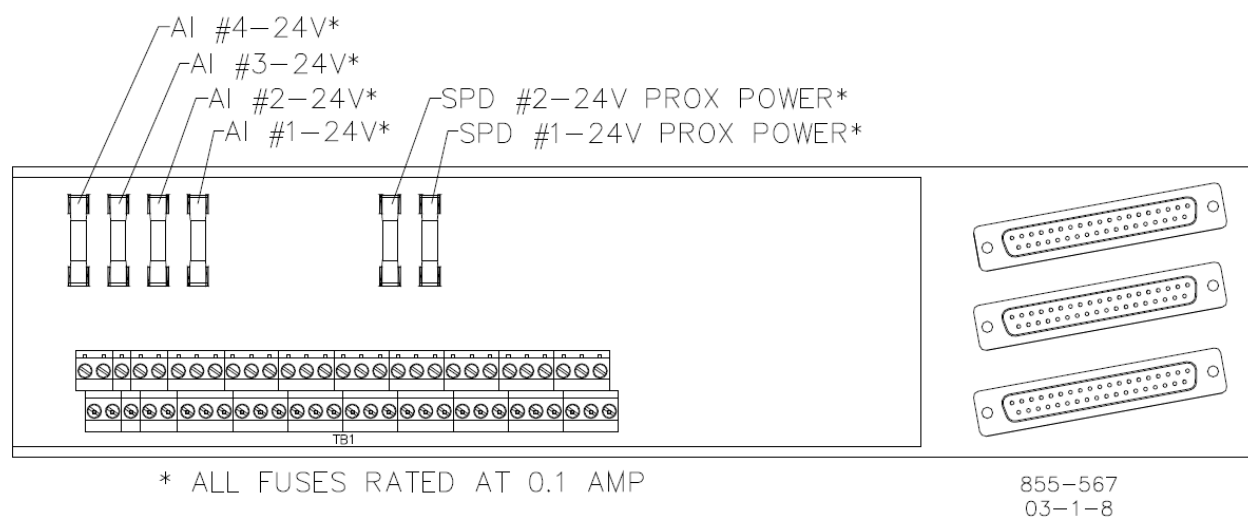

Figure 8-7. TMR MPU and Analog I/O Module FTM Fuse Locations
Verify that any unused MPU/Prox inputs are jumpered per Figure 8-7.
- Verify that any unused MPU/Prox inputs are jumpered per Figure 8-7.